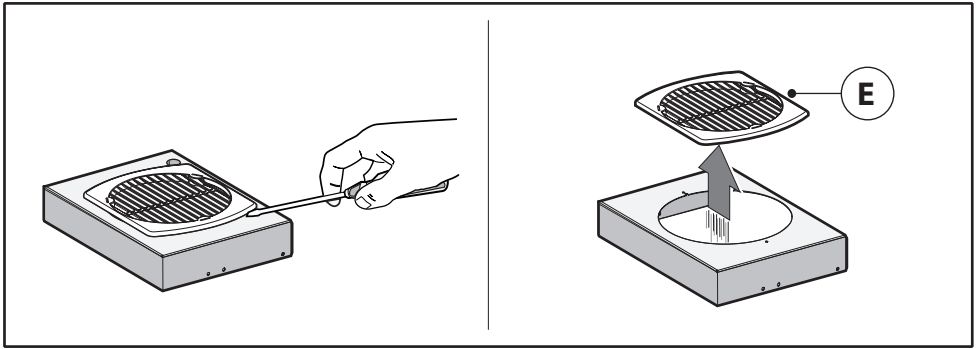

Fig.5
- Unhook the small cupola **M** and remove the grille **E** (Fig. 5).